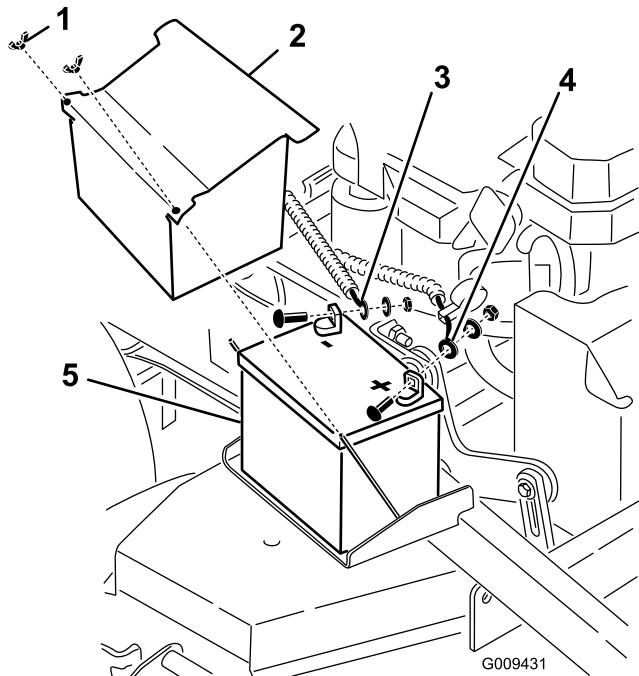

Figure 52
4. Disconnect the negative battery cable from the negative (-) battery terminal (Figure 52).
6. Remove the positive (red) battery cable (Figure 52).
7. Remove the battery hold down plate (Figure 52), and remove the battery.
3. Install the positive (red) battery cable to positive (+) battery terminal with a nut, a washer, and a bolt (Figure 52).
5. Install the negative battery cable and the ground wire to the negative (-) battery terminal with a nut, a washer, and a bolt (Figure 52).
1. Place the battery onto the machine (Figure 52).